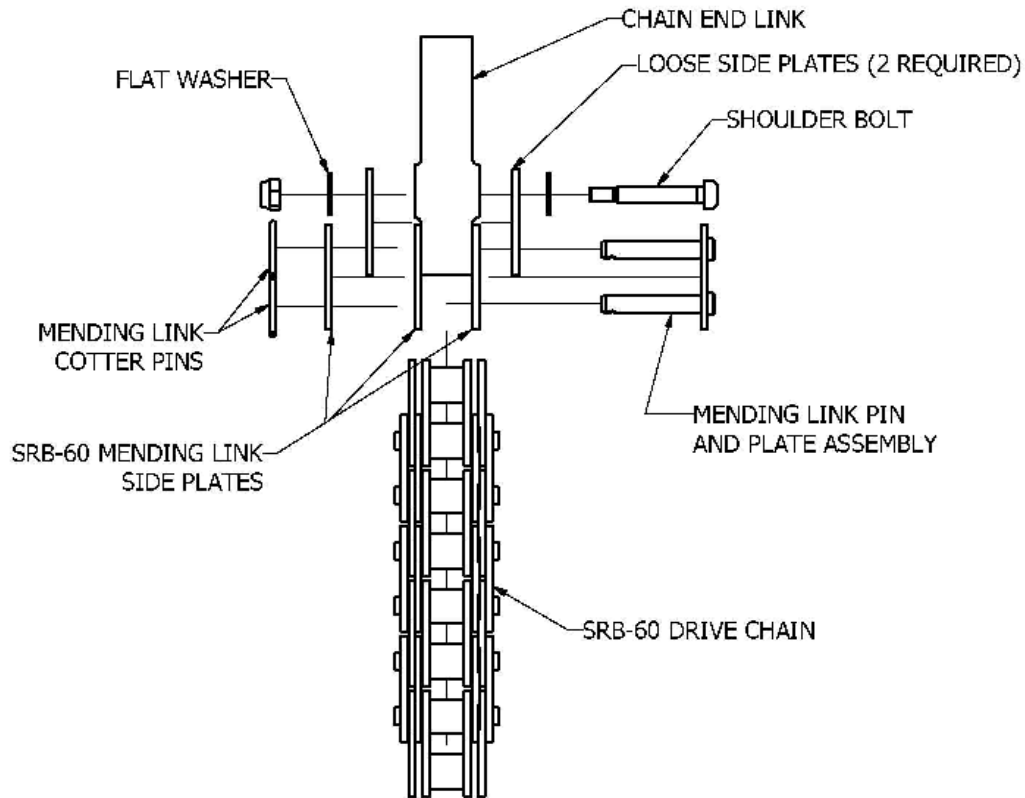

Figure 10: Terminating the drive chain.
3. Attach the Chain End Link to the end of the Drive Chain as seen in figure 10.
5. Remove the Chain End Link from the bottom of the arbor and attach it to the chain as shown in Figure 10.